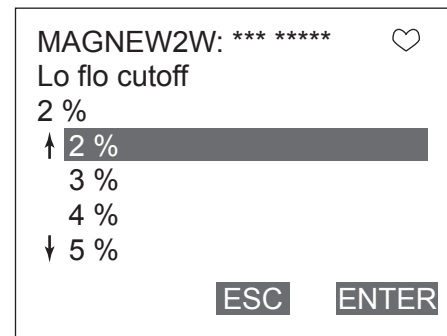

Figure 7-25
Figure 7-25 will then be displayed.
2. Once the display as shown in Figure 7-25 appears, move the arrow key up or down to select low flow cut value. Value can be specified from 1% to 10%. After making a selection, press F4(ENTER). If F3 (ESC) is pressed here, the selection will be canceled and the display will return to the Noise immunity menu.